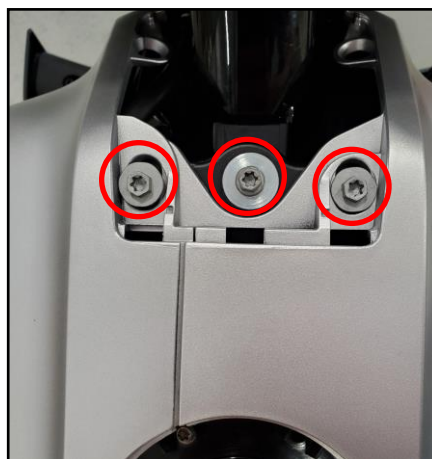

Fig. 2
3. Remove the tank bolt and the two bolts that hold on the side tank covers (Figure 2).